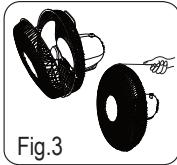

Fig.3
5. Open the clips on the front protective guard and place the front protective guard on the rear protective guard (align the locking screw holes) and close tabs. Tighten the locking screw and nut. (Fig. 3)